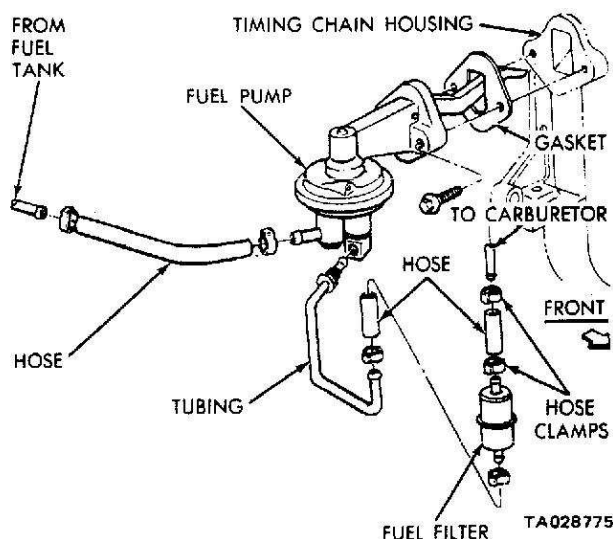

Figure 2-11. Fuel Pump Connections.
(1) Disconnect the battery ground cable at the negative terminal of the battery.
(2) Disconnect the inlet and outlet fuel lines from the fuel pump (see figure 2-11).